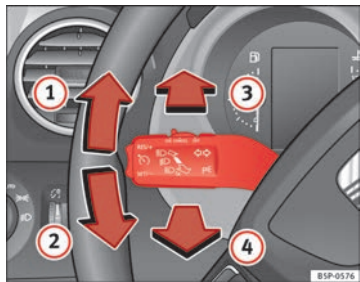

Fig. 75 Turn signal and main beam headlight lever
- Move the lever all the way up ⇒ Fig. 75 ① to indicate **right**, and all the way down ② to indicate **left**.
- If the dipped lights are on, push the lever forward ⇒ Fig. 75 ③ to switch on the main beam.
- Push the lever towards the steering wheel ⇒ Fig. 75 ④ to switch off the main beam.